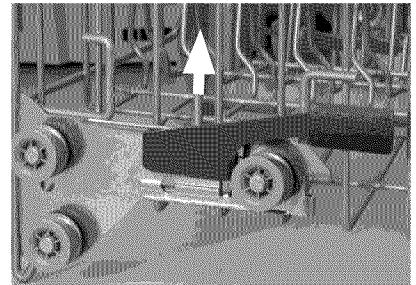

Figure 5
2. Press the Automatic Height- Adjustable Top Rack handles inward as shown in Figure 5 and let the rack drop.